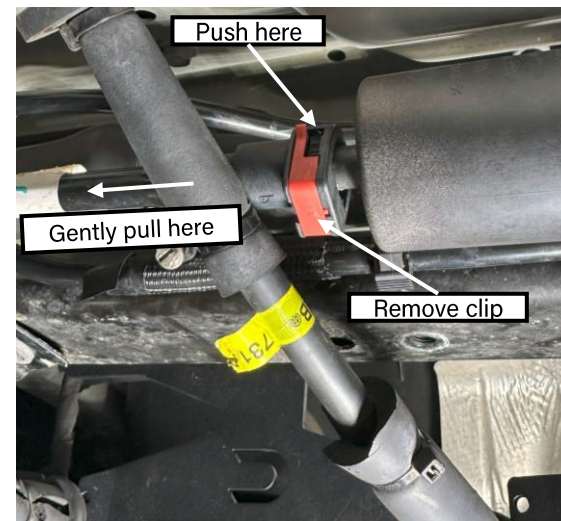

Figure 19: Vapor system hose clip
- ❑ Remove the vapor system hose clip by removing the red, plastic retaining clip and gently pushing down on the spring clip on the opposite side (Figure 19)